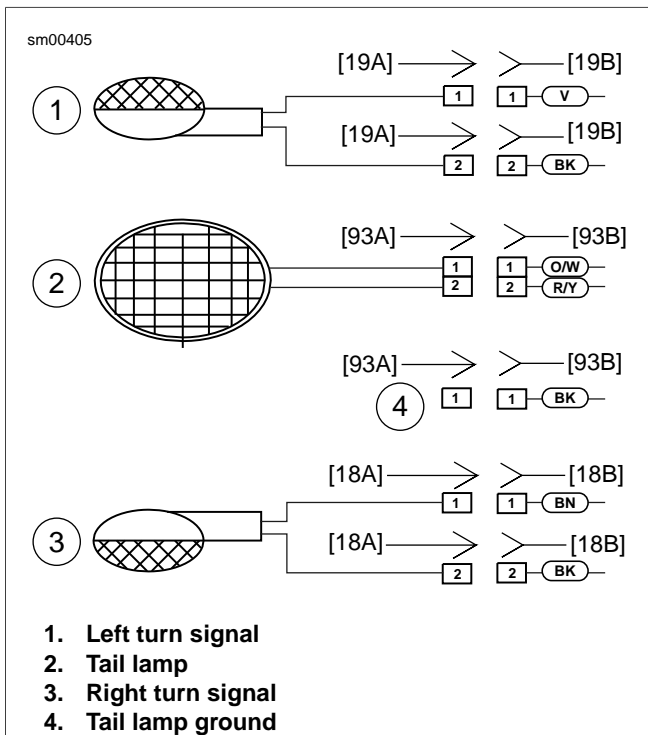

Figure 6-52. Rear Turn Signal Connections: Firebolt/Lightning
3. See Figure 6-52. Disconnect bullet connectors on turn signal wires.
1. Insert bullet connectors through license plate bracket (4) and tail section.
4. Attach bullet connectors on turn signal wires as shown in Figure 6-52.
2. See Figure 6-52. Disconnect bullet connectors [18] and [19] on turn signal wires.
1. See Figure 6-52. Insert bullet connectors through center tail section.